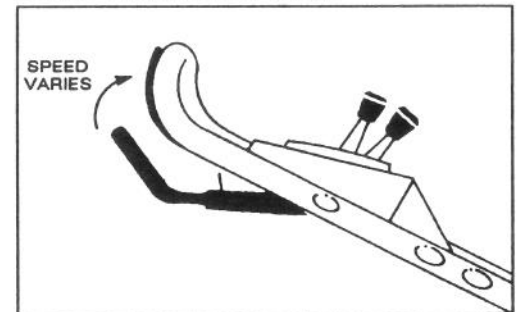

Figure 9
5. **TRACTION OPERATION** (self-propelled model) – Move ground speed control to desired setting and squeeze control bar against handle to drive. Ground speed varies, depending on space between control bar and handle (Fig. 9).